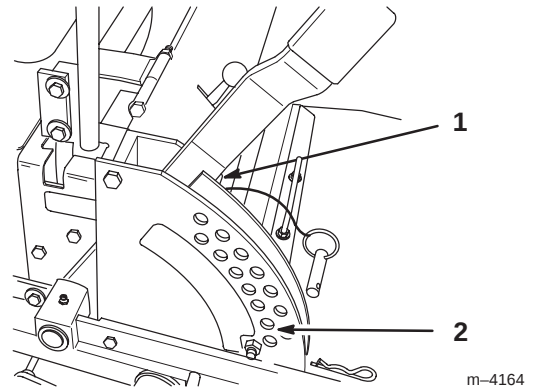

Figure 55
4. Raise the deck to the transport position and take all force off of the two large deck lift springs by loosening nut in front of each spring (Fig. 55).
5. Place two 1-1/2 in. (38 mm) thick blocks under rear left and right lower edge of mower. Place one 2-1/4 in. (57 mm) block under front center lower edge of mower. Lower mower to the 2 in. (51 mm) height-of-cut position (Fig. 55).
- Raise deck lift lever to the transport position (Fig. 55).